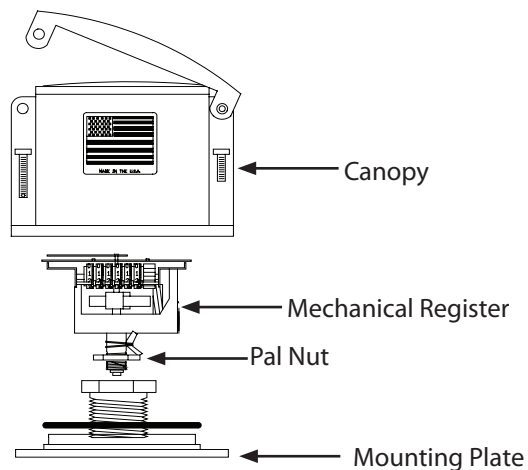

Figure 31: Flowmeter Parts
Remove the six (6) screws holding the Canopy to the mounting plate and discard. (See Figure: 31) One of the screws has a seal attached, remove it prior to removing that screw. Lift off the canopy carefully to prevent damage to the register.